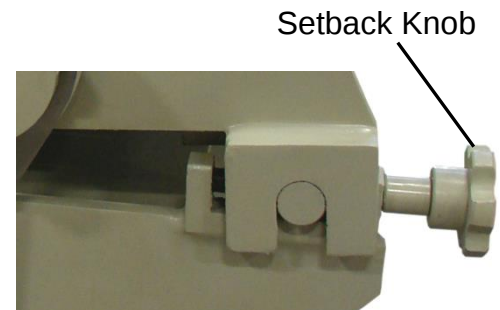

figure 16
3. Using the two setback knobs at the rear of the brake (fig. 16), move the fingers forward until they are almost touching the bending wing.